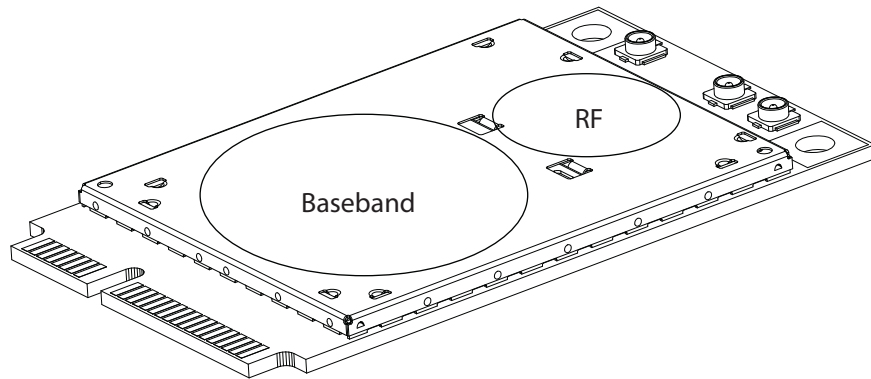

Figure 7-4: Shield locations
Specific areas requiring heat dissipation are shown in Figure 7-4:
- Monitor temperature at all shield locations. Attach thermocouples to the areas indicated in Figure 7-4 on page 68 (Baseband, RF).